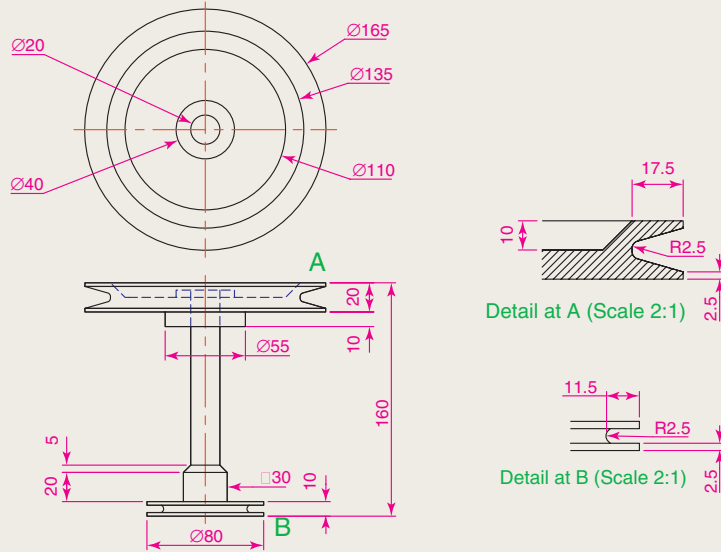

Fig. 12.54 Exercise 8
8. Working to the details given in the orthographic projection Fig. 12.54, construct a 3D model of the assembly. After constructing the pline outline(s) required for the solid(s) of